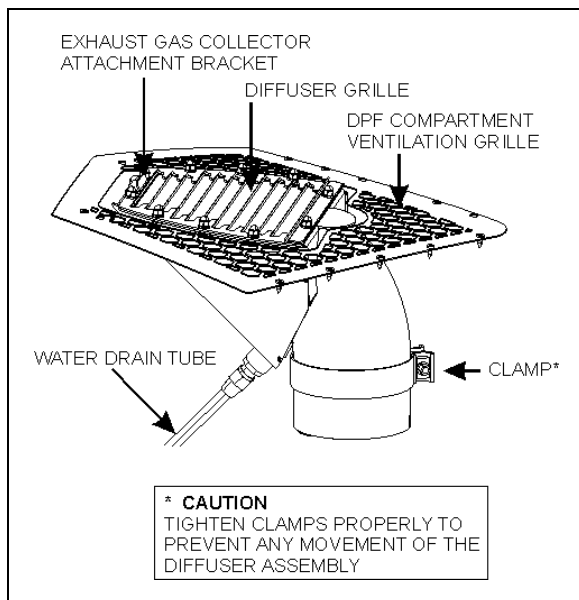
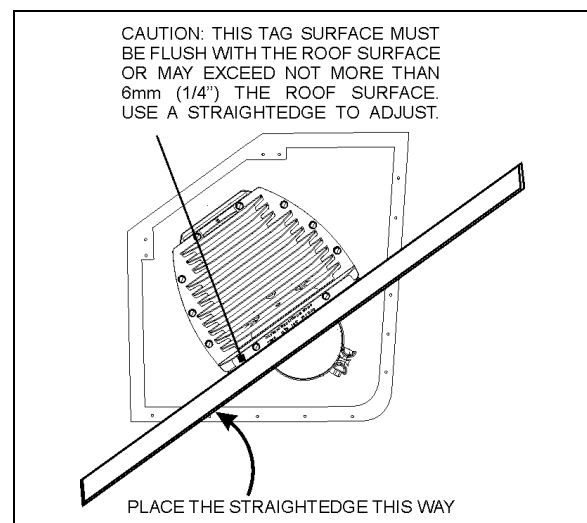

FIGURE 9: DIFFUSER ASSEMBLY
FIGURE 11: DIFFUSER POSITION ADJUSTMENT
- Using a straightedge, adjust the diffuser assembly level. The top surface of the tag fixed on the diffuser grille must be flush with the roof surface (fig.9). It may exceed about 1/4in (6mm). Place the straightedge as shown on figure 11.